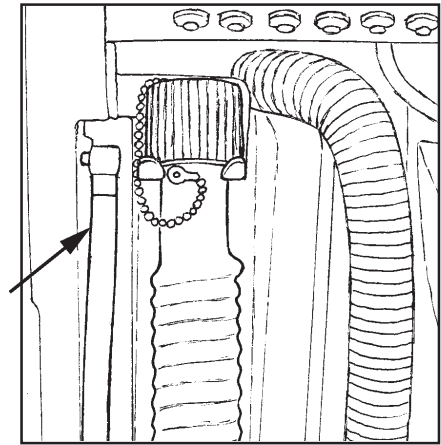
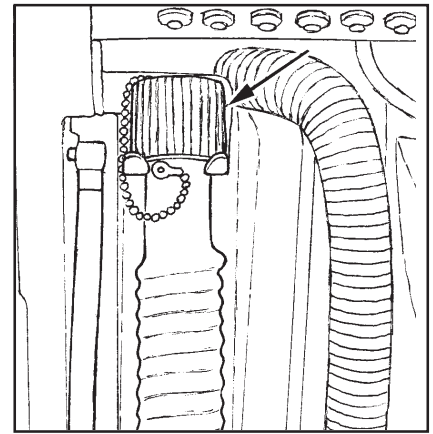

Figure 31
Figure 32
1. Drain the solution tank (Figure 31) and the recovery tank (Figure 32). To drain the tanks, follow this procedure: